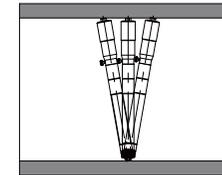

Fig.5
- During measurement, make sure there are no cutting chips or other debris on both measuring faces and workpiece surface which will affect the result. Rotate friction thimble to set its size less than the hole's diameter, and then put micrometer into the hole. Put fixed measuring face to contact the measured hole, rotate friction thimble slowly, shake micrometer gently along hole's axial and radial to find the minimum value in axial direction(Fig.5) and the maximum value in radial direction(Fig.6), tighten the locking screw, take out micrometer to get the result.